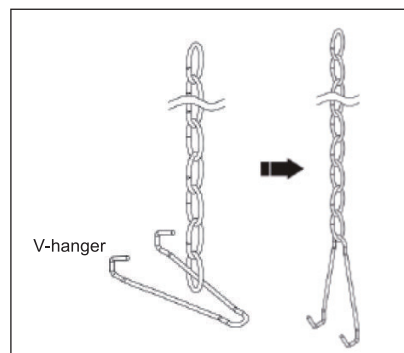

Figure 4
2. Attach chain to supplied V-hanger (Figure 4).